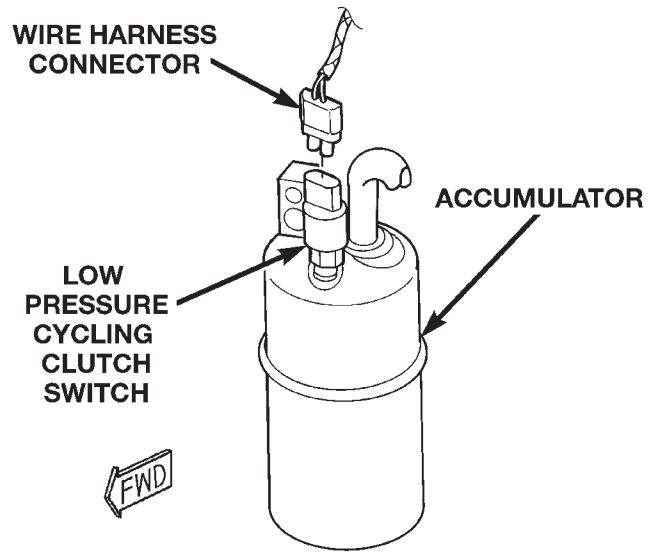

Fig. 32 Low Pressure Cycling Clutch Switch Remove/Install - Typical
(1) Disconnect and isolate the battery negative cable.
(2) Unplug the wire harness connector from the low pressure cycling clutch switch on the top of the accumulator (Fig. 32).
(3) Unscrew the low pressure cycling clutch switch from the fitting on the top of the accumulator.
(4) Remove the O-ring seal from the accumulator fitting and discard.